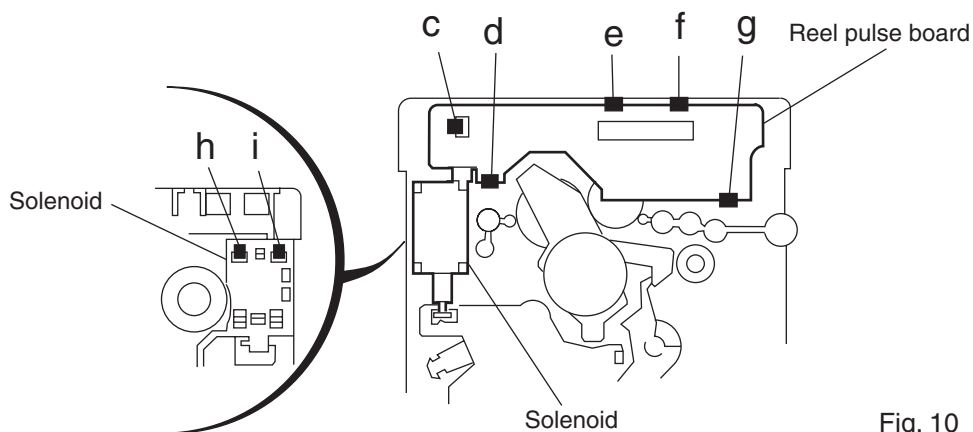

Fig. 10
■ Removing the reel pulse board and solenoid (See Fig. 10)